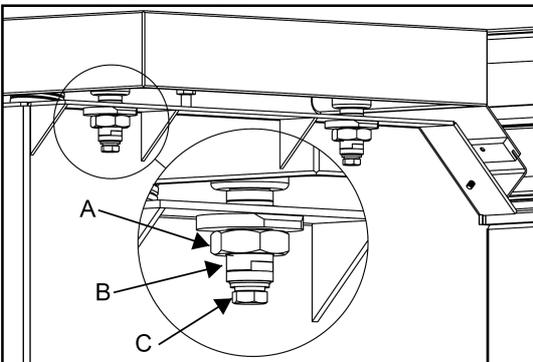

Fig.25
- 2, There are four bolts supporting the main table on four cabinet corners. Loosen A and B, and turn bolt (C) for height adjustment **Fig.25**.
- 4, Secure (A) and (B).